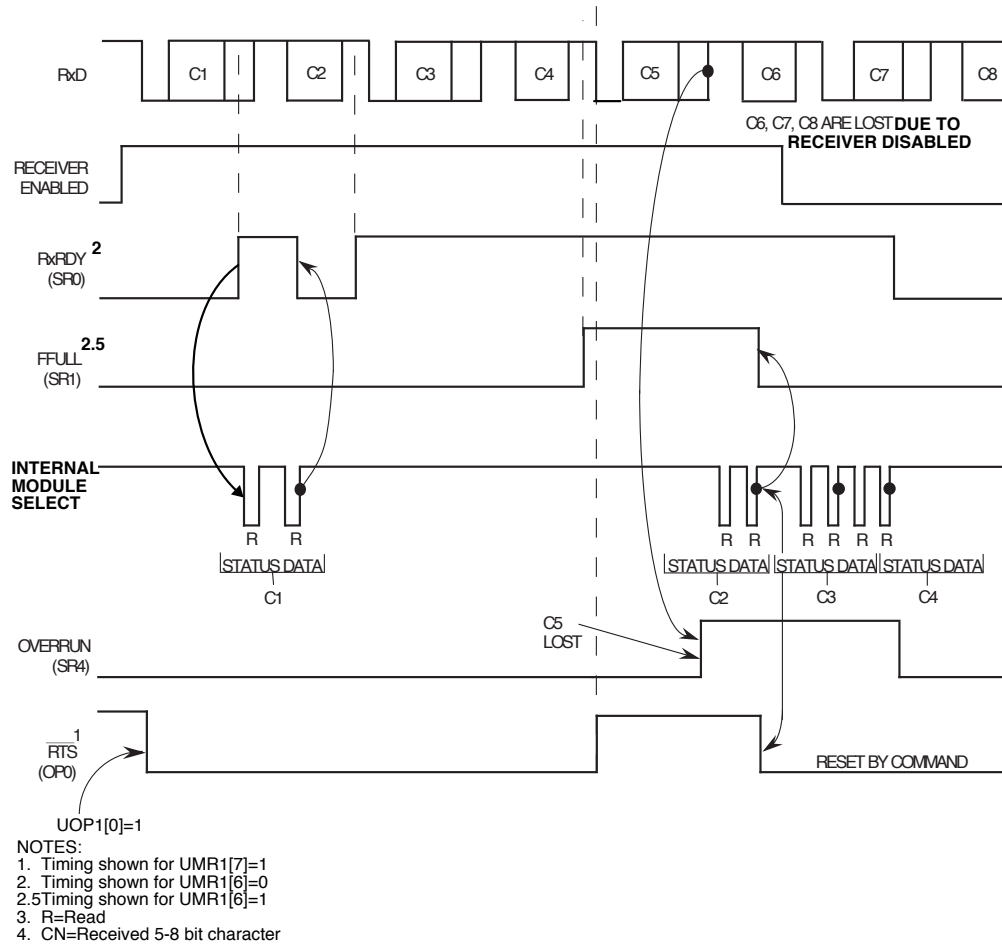

Figure 11-6. Receiver Timing Diagram
11.3.3.2 RECEIVER. The receiver is enabled through the UCR located within the UART module. Functional timing information for the receiver is shown in Figure 11-6. The receiver looks for a high-to-low (mark-to-space) transition of the start bit on RxD. When a transition is detected, the state of RxD is sampled each 16× clock for eight clocks, starting one-half clock after the transition (asynchronous operation) or at the next rising edge of the bit time clock (synchronous operation). If RxD is sampled high, the start bit is not valid and the search for the valid start bit repeats. If RxD is still low, a valid start bit is assumed and the receiver continues to sample the input at one-bit time intervals at the theoretical center of the bit.